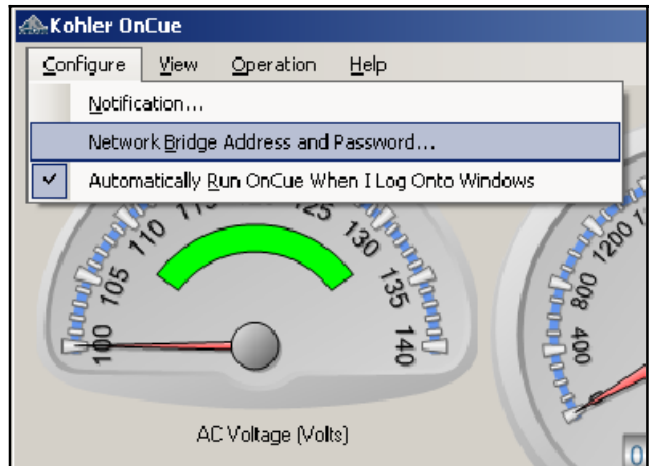

Figure 2-4 Configure Menu
1. Click on the top toolbar, Configure > Network Bridge Address and Password to open the Network Bridge and Password Setup window shown in Figure 2-4.